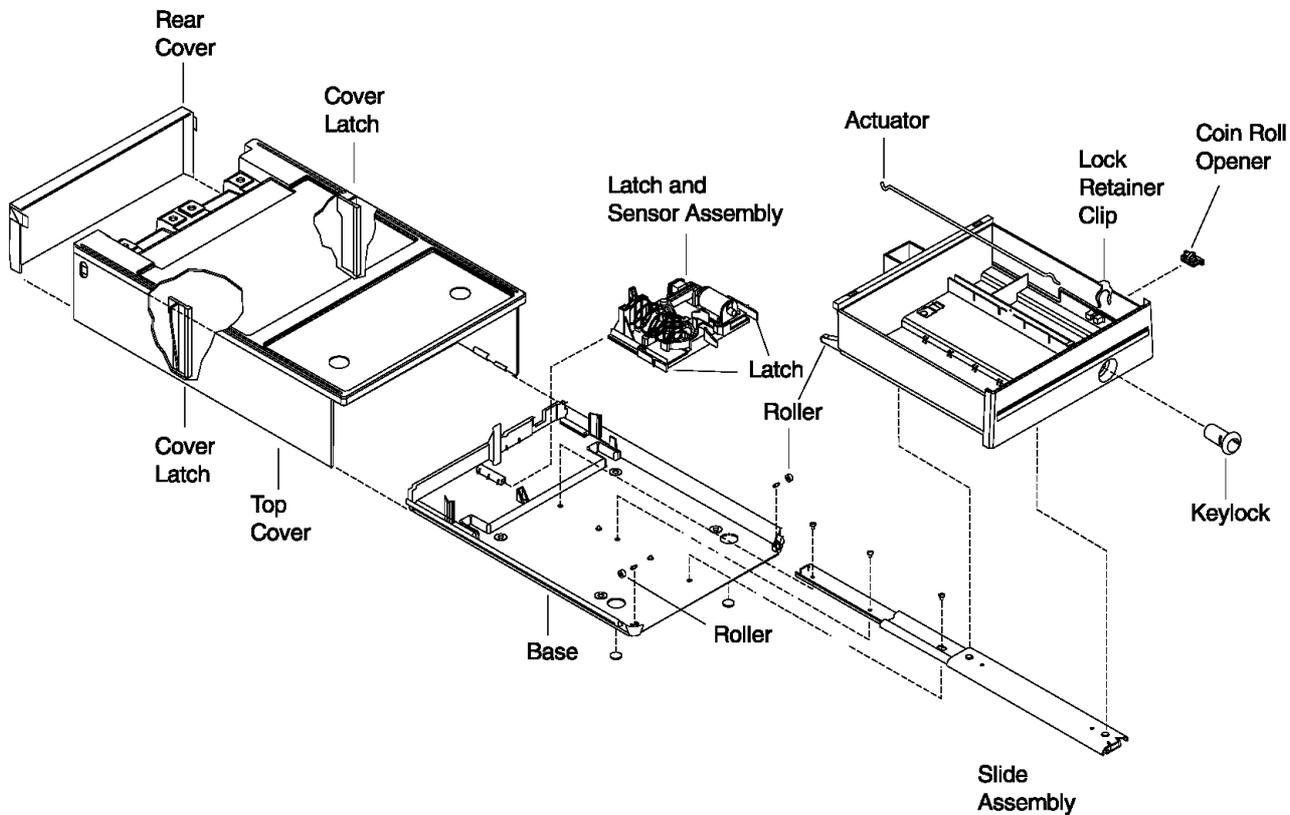

Figure 2-14. Compact Cash Drawer Assembly
3. Remove the three screws that secure the slide to the base and lift the slide assembly out. See Figure 2-14.
2. Remove the lock retainer clip holding the keylock assembly on the inside of the drawer. See Figure 2-14 in topic 2.4.6.
4. To exchange the keylock assembly, make sure the lock actuator rod is in the position shown in Figure 2-14 in topic 2.4.6.
6. Reach into the front with two hands and push the two cover latches to the outside while sliding the top cover to the rear. See Figure 2-14 in topic 2.4.6.
5. Reach in from the front with two hands and push the latch on each side of the latch assembly inward while pulling the assembly toward the front. See Figure 2-14 in topic 2.4.6.